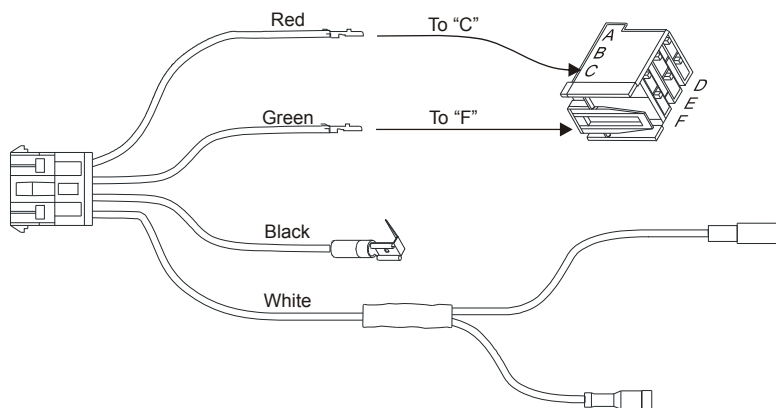

Figure 3.2
- ☐ Remove the cover and locate the SEO port. Connect the power and ground plug from the interface cable to the SEO port (Figure 3.2) and replace the cover.